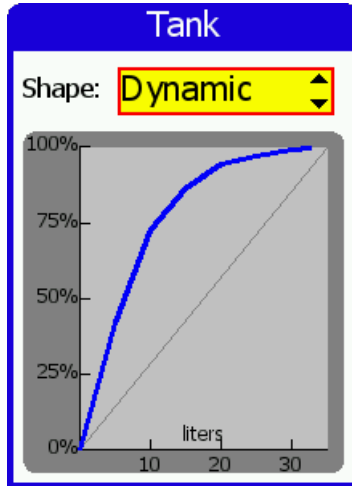

Figure 44: Tank shape selection window. The figure shows that the curve for the Dynamic WT9 tank is very non-linear
2. Select *T1 Shape*. This opens a tank shape window, Figure 44. Use up or `down` button to select the correct shape for your aircraft tank. The graphics below shows the non-linearity of the tank. Straight diagonal line indicates that the tank is linear. Please note that changing the shape deletes any existing tank calibration. See the *IMPORTANT* box on the page 63.